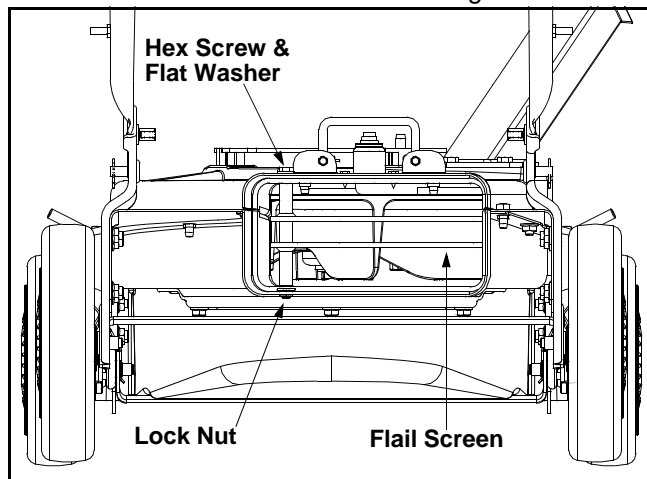

Figure 11
- Remove the bag or blower chute (if equipped) from the unit as instructed in the OPERATION section to obtain access to flail screen. See Figure 11.
- Remove hex screw and flat washer on top of rear housing mounting bracket and the lock nut that secures flail screen. See Figure 11.
- Remove lock nut that secures flail screen to the lower housing. The flail screen does not have to be removed. Refer to Figure 11.